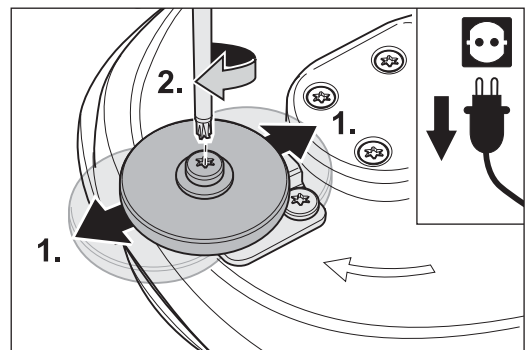

Fig. 63 Push the wall-protecting roller (1.) and tighten the screw (2.).
- 4 Push the wall-protecting roller into the position you require (Fig. 63, 1.) and retighten the screw (Fig. 63, 2.).